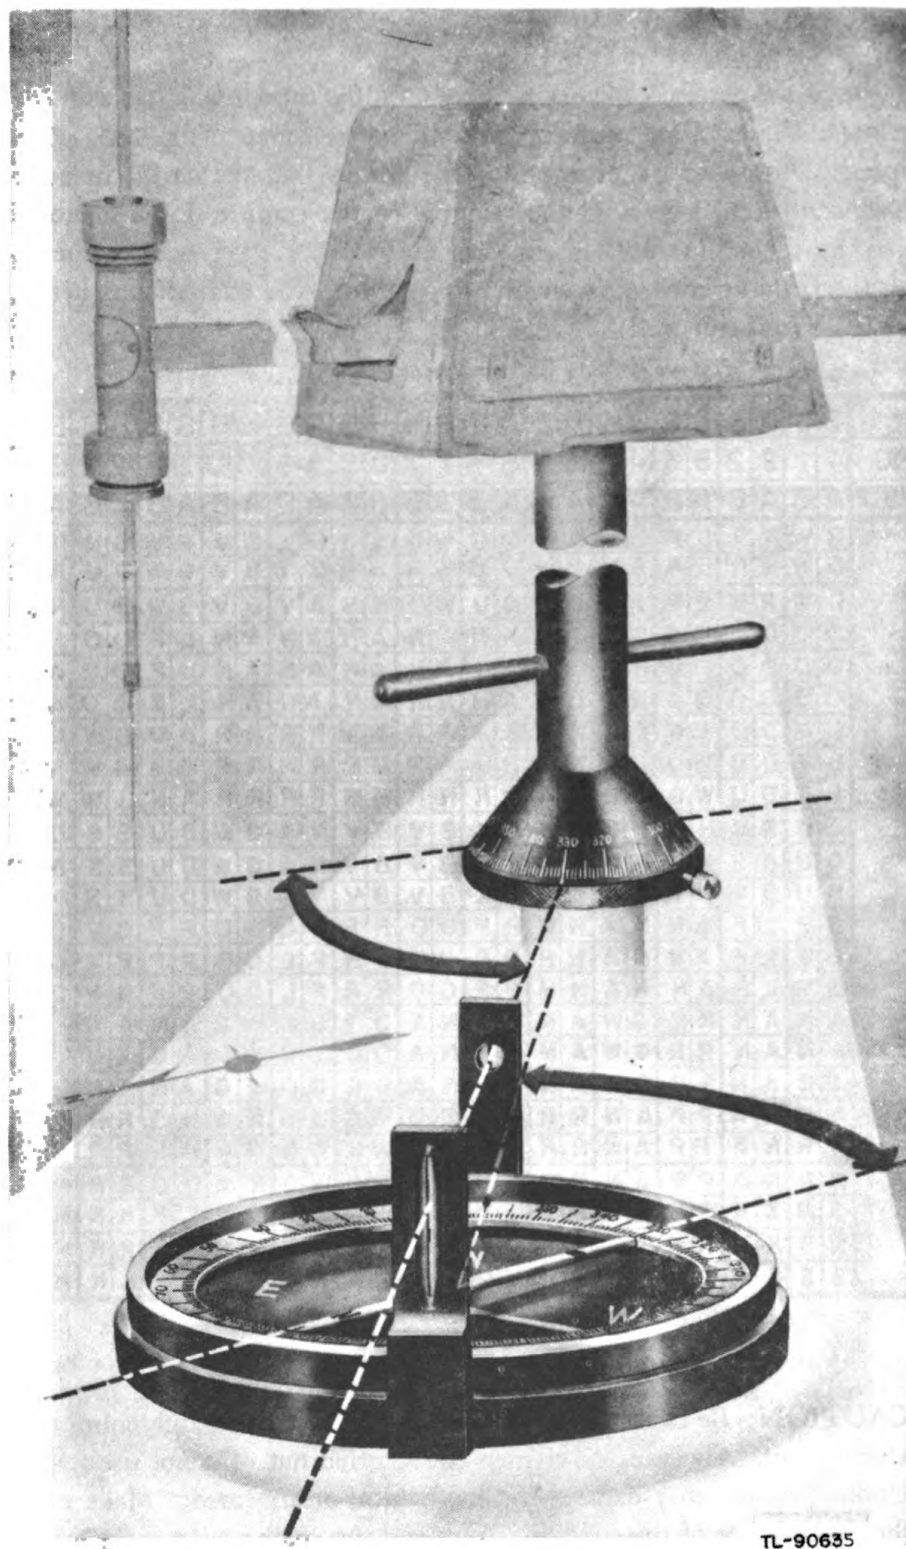

Figure 32. Azimuth correction for beacon.
(4) The beacon operator sets the zero set-ring on the antenna mount to zero on the beacon azimuth by loosening the knurled screw on the zero set-ring and turning the ring until zero on the scale is opposite the scribe mark on the zero set-ring and tightens the knurled screw.
(5) The beacon operator then turns the antenna mast to the same azimuth reading as that called by the compass operator. This will place the antenna array parallel with the compass needle (fig. 32).